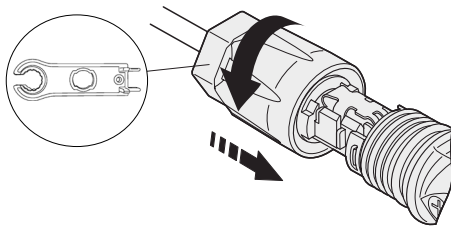

Fig. 33. Locking the connector.
5. Push the battery connector up to the threaded joint and use an open-end spanner to firmly lock the connector with a torque of 2 Nm, as shown in Fig. 33.